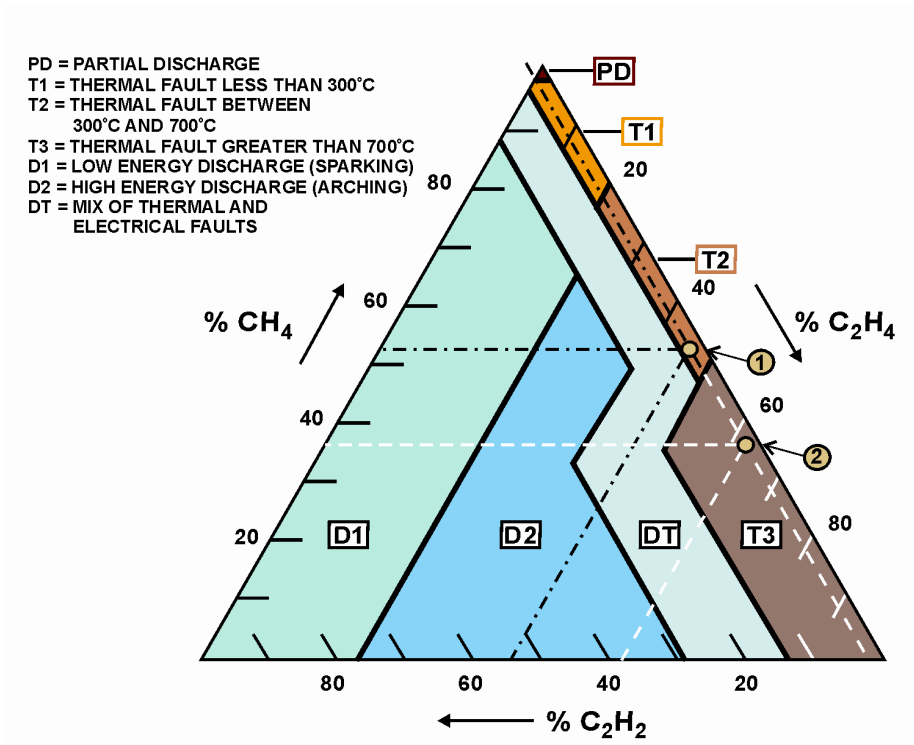

Figure 50 – Duval Triangle Diagnostic Example of a Reclamation Transformer.
Example: Using figure 50 and the information below, two diagnoses of a Reclamation transformer were obtained. The first diagnosis (Point 1) was obtained using the total amount of the three gases used by the Duval Triangle. The second diagnosis (Point 2) was obtained using only the increase in gases between the two DGAs. CO and CO₂ are used to evaluate cellulose.
Steps to Obtain the First Diagnosis (Point 1) on the Duval Triangle (Figure 50)
3. Draw three lines across the Duval Triangle starting at the percentages obtained in step 2. These lines **must be drawn parallel** to the hash mark on each respective side. See the black dashed lines in figure 50 above.
Steps to Obtain the Second Diagnosis (Point 2) on the Duval Triangle (Figure 50)
3. Draw three lines across the Duval Triangle starting at the percentages obtained in step 2. These lines **must be drawn parallel** to the hash mark on each respective side. See the white dashed lines in figure 50 above. Note that C₂H₂ was the same percentage (2%) both times; and, therefore, both lines are the same.